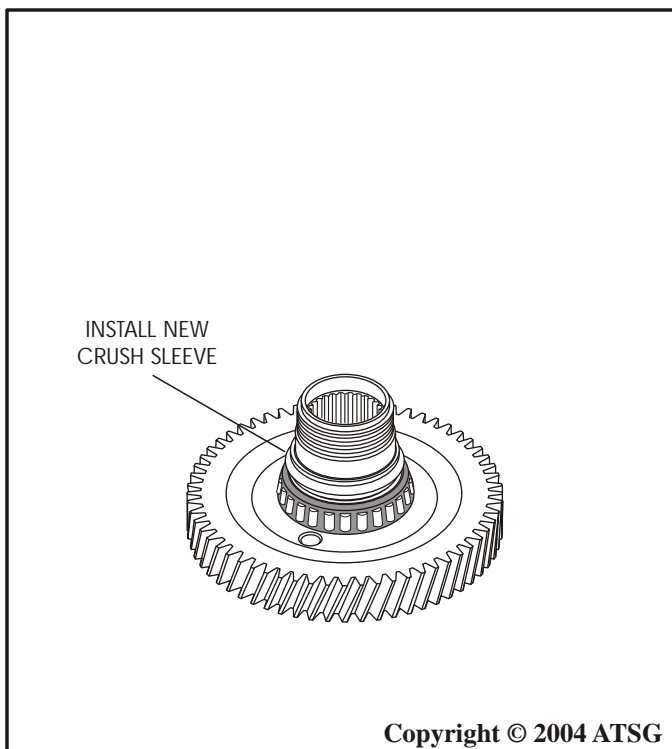

Figure 117
15. After new tapered roller bearing is pressed on, install a **new** crush sleeve (See Figure 117).